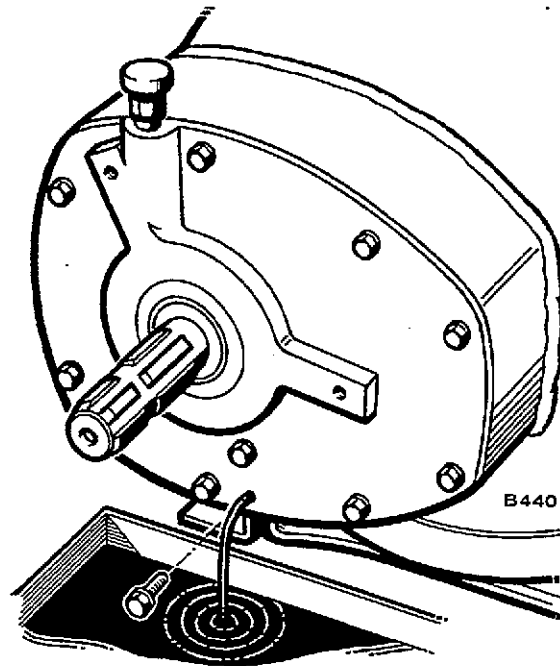

FIGURE 48. DRAINING GEAR CASE
2. Remove gear case drain plug and allow oil to drain, Figure 48.